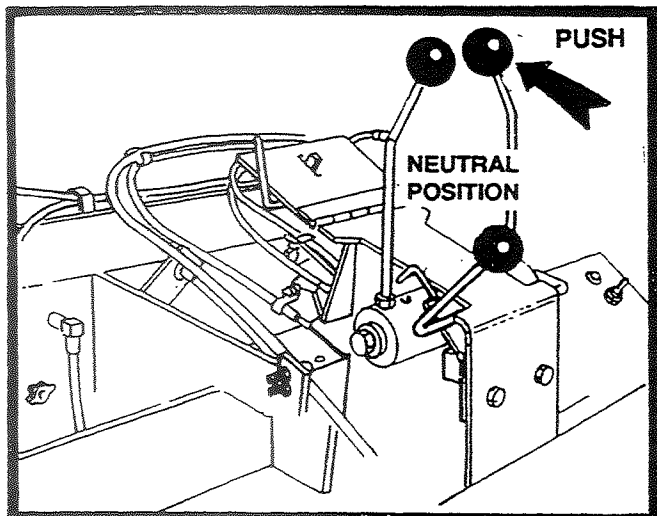

FIGURE 4
3. Depending on the direction of travel, turning the paver can be accomplished by pushing or pulling the steering lever on the inside of the turn toward the neutral position. Refer to figure 4.